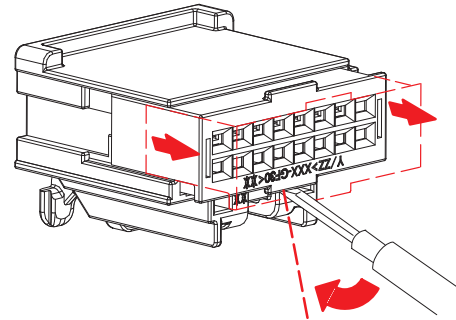

Figure 3
2. Rotate the extraction tool toward the connector housing to “pop” the TPA into the pre-latched (disengaged) position. See Figure 3.